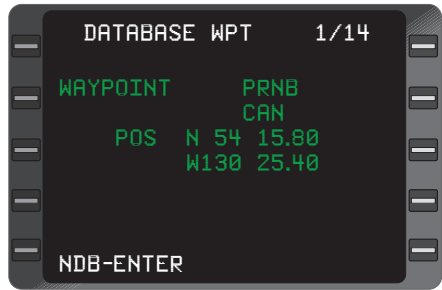

Figure 2-79
NDBs stored in the internal database are listed in Jeppesen publications with a 2 or 3 letter identifier. To distinguish these NDBs from VHF NAVAIDS, you must add an "NB" suffix to the database identifier. Example: To access the Prince Rupert (PR) NDB, you must enter PRNB. (Figure 2-79)